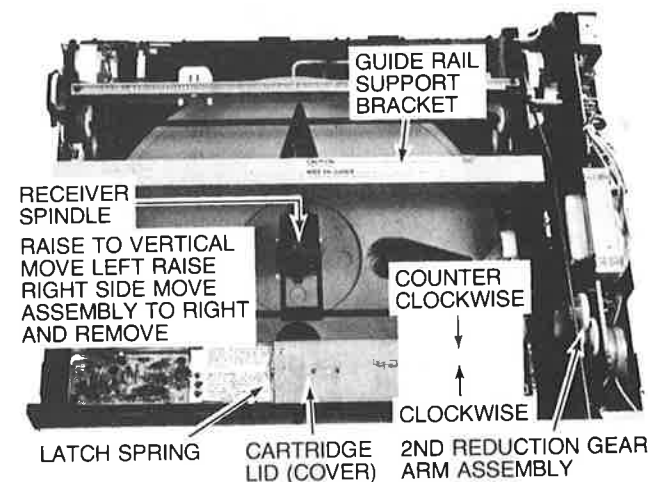

Fig. 14—Stylus Cartridge and Receiver Spindle
1. Remove stylus cartridge and store in safe place. Place instrument, bottom up, on workbench with soft surface. If cabinet top has been removed also remove receiver spindle assembly (Fig. 14)
2. Using thumb—rotate 2nd reduction gear (Fig. 14) in counter clockwise direction moving the arm assembly to a point where the stylus cartridge access cover (lid) is accessible.
1. With cabinet top removed—rotate receiver spindle assembly to a vertical position (Fig. 14).